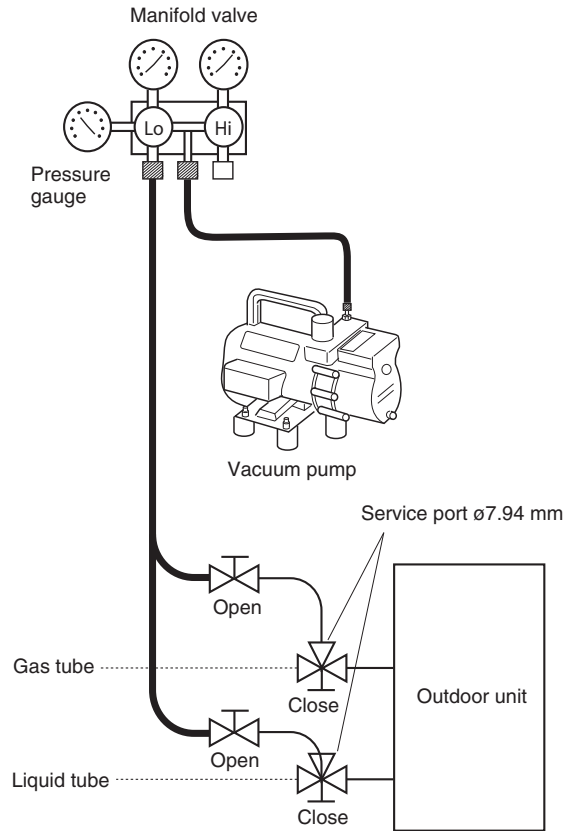

Fig. 6-4
- When the desired vacuum is reached, close the “Lo” knob of the manifold valve and turn off the vacuum pump. Confirm that the gauge pressure is under -101 kPa (-755 mmHg, 5 Torr) after 4 to 5 minutes of vacuum pump operation. (Fig. 6-4)